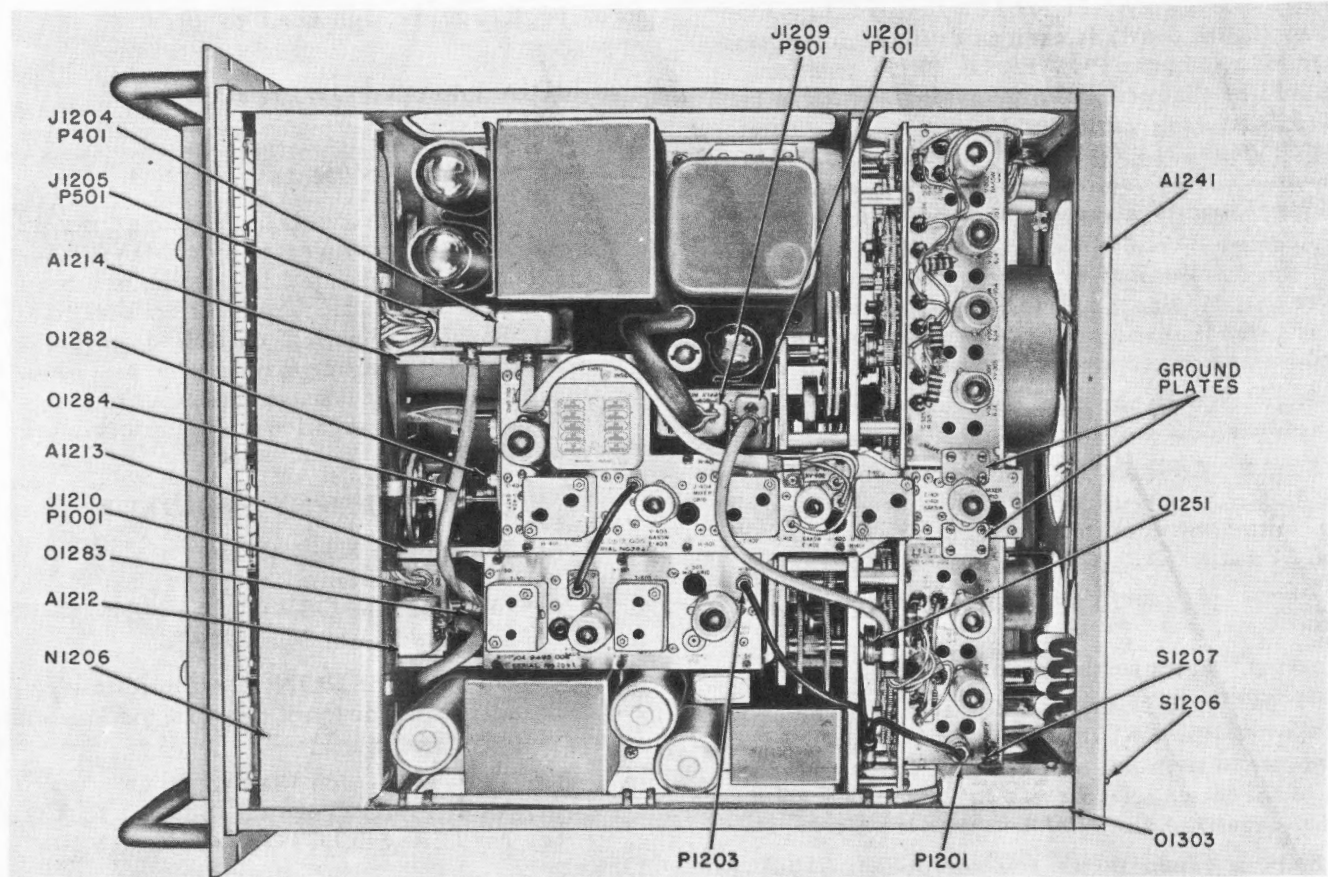

Figure 6-26. Radio Receiver R-278B/GR, Top View
Step 4. Remove rear plate A1241 (figure 6-26).
Step 9. Remove power connector P101 from J1201 (figure 6-26).